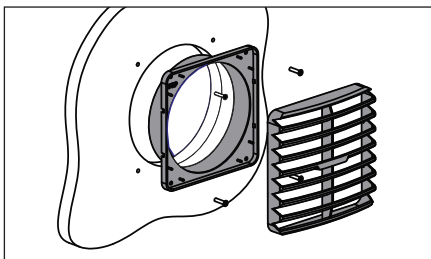

Fig. 21
3. Fix Grille base with four 6 G screws and snap fit the Grille louvers over the Grille base as shown in Fig. 21.